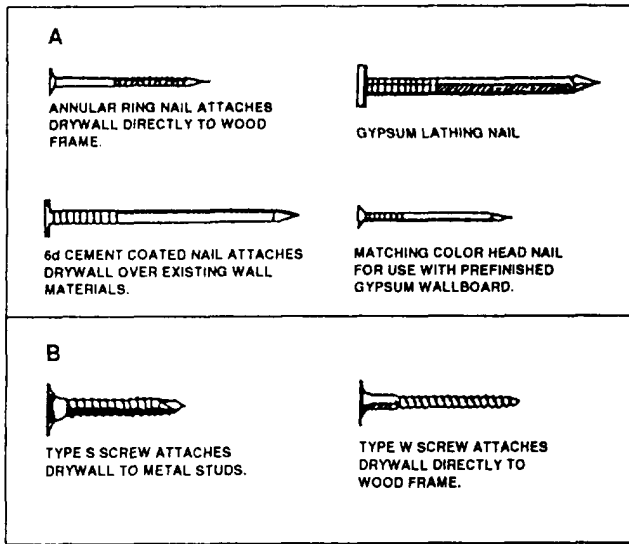

Figure 5-3.—Drywall fasteners.
**NAILS.**— Drywall nails (fig. 5-3, view A) are specially designed, with oversized heads, for greater holding power. Casing or common nailheads are too small. Further, untreated nails can rust and stain a finish. The drywall nail most frequently used is the annular ring nail. This nail fastens securely into wood studs and joists. When purchasing such nails, consider the thickness of the layer or layers of drywall, and allow additional length for the nail to penetrate the underlying wood  $\frac{3}{4}$  inch. Example:  $\frac{1}{2}$ -inch drywall plus  $\frac{3}{4}$ -inch penetration requires a  $1 \frac{1}{4}$ -inch nail. A longer nail does not fasten more securely than one properly sized, and
**SCREWS.**— Drywall screws (fig. 5-3, view B) are the preferred method of fastening among professional builders, cabinetmakers, and renovators. These screws are made of high-quality steel and are superior to conventional wood screws. Use a power screw gun or an electric drill to drive in the screws. Because this method requires no impact, there is little danger of jarring loose earlier connections. There are two types of drywall screws commonly used: type S and type W.
**Type S.**— Type S screws (fig. 5-3, view B) are designed for attachment to metal studs. The screws are self-tapping and very sharp, since metal studs can flex away. At least  $\frac{3}{8}$  inch of the threaded part of the screw should pass through a metal stud. Although other lengths are available, 1-inch type S screws are commonly used for single-ply drywall.
**Type W.**— Type W screws (fig. 5-3, view B) hold drywall to wood. They should penetrate studs or joists at least  $\frac{5}{8}$  inch. If you are applying two layers of drywall, the screws holding the second sheet need to penetrate the wood beneath only  $\frac{1}{2}$  inch.